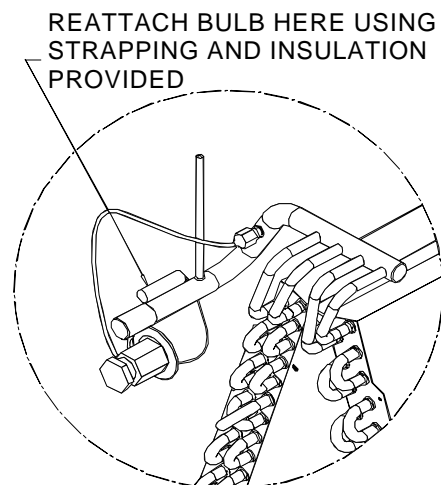

Figure 3
**IMPORTANT NOTE:** In order to prevent damage to the sensing bulb, it is not permanently installed in the factory. This bulb is to be removed prior to brazing. Place in proper location after braze joint has cooled (Figure 3).
10. Replace sensing bulb to horizontal portion of suction line (Figure 3) just inside cabinet. Place bulb parallel with suction line in the 10 o'clock position. If 10 o'clock position is inaccessible, place in the 2 o'clock position. Secure bulb to line with strapping provided in literature envelope. Insulate sensing bulb to line with self-adhesive insulation provided in envelope.